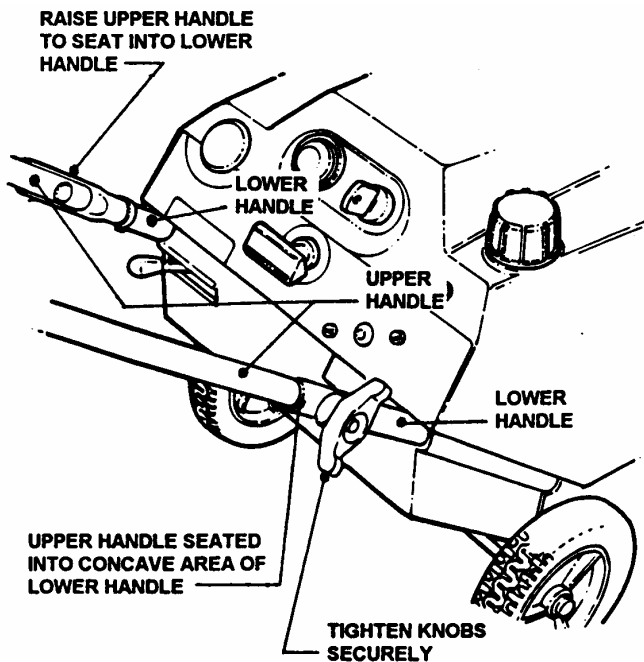

FIGURE 1
**STEP 1:** Remove machine from shipping carton. Machine is shipped in carton with handles folded. Remove and discard cardboard from between all handles. The right side of upper handle is positioned on the outside of lower handle. The upper handle should be moved to the inside of the lower handle and bolt and knob reinstated. Raise upper handle until the lower ends seat into concave area of lower handle. Securely tighten upper handle with knobs and curved head bolts on both sides. See Figure 1.